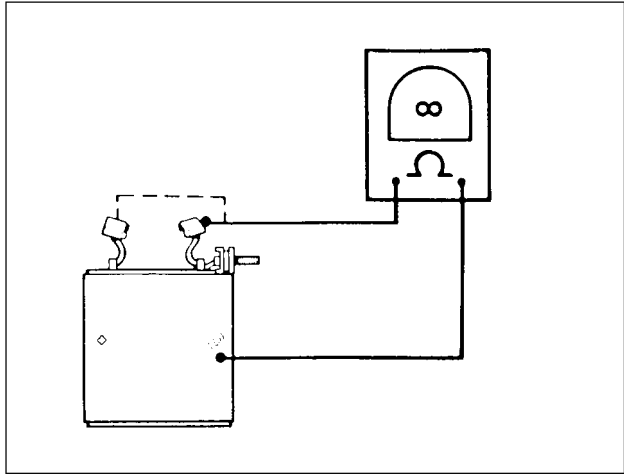

Figure 5-14. Grounded Field Test
13. See **Figure 5-14**. Check for GROUNDED FIELD WINDING with an ohmmeter or continuity tester. Touch one probe to the frame, and the other probe to each of the brushes attached to the field winding. There should be no continuity (infinite ohms). If there is any continuity at either brush, the field winding(s) are grounded and the field frame should be replaced.